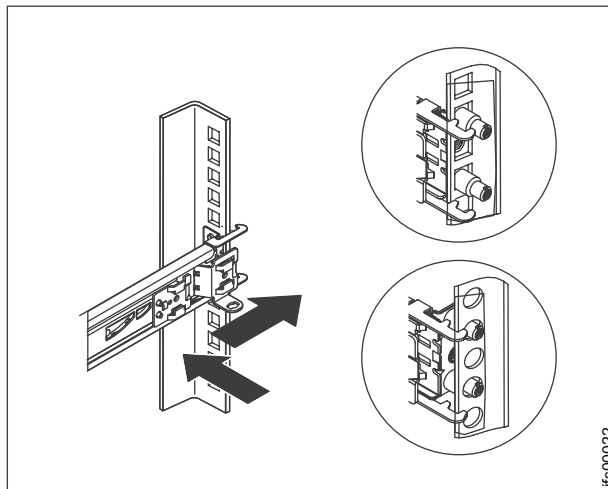

Figure 28. Installing the rear end of the slide rails
4. From the front of the rack, line up the two pins on the rear of the slide rail in the selected unit on the rear of the rack. Push the rails so that the pins go into the holes and slide the rails into the rack to lock the rear of the slide rails into the rack. Refer to Figure 28.